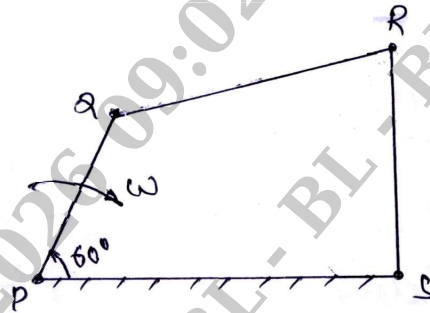

Fig.Q2
- 2 PQRS is a four bar mechanism with link PS fixed as shown in Fig.Q2. The lengths of the links are $PQ = 62.5$ mm, $QR = 175$ mm, $RS = 112.5$ mm, $PS = 200$ mm. The crank PQ rotates at 10 rad/sec clockwise. Draw the velocity and acceleration diagrams when angle $QPS = 60^\circ$ and 'Q' and 'R' lie on the same side of PS. Find angular velocity and angular acceleration of links QR and RS.